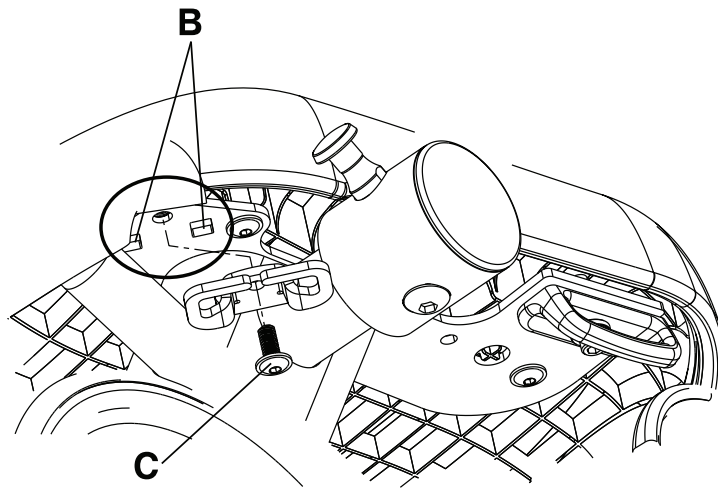

Figure 1-34: Lap belt bracket installation
- a. Fit the two tabs (A) on the bracket (Figure 1-33 on page 1-51) into the square holes on the main frame weldment (B) (Figure 1-34 on page 1-52).
- b. Install the supplied socket head cap screw (0004-671-000) (C) into the round hole on the bracket to secure the lap belt bracket to the main frame weldment (B) (Figure 1-34 on page 1-52). Using a 3/8" drive torque wrench and a 3/16" hex bit, torque the screw to  $70 \pm 10$  in-lbs.